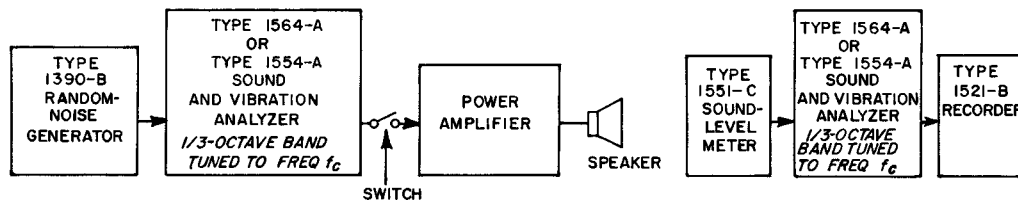

Figure 5.6. Setup for reverberation measurements.
Figure 5.6 shows the setup for reverberation measurements using a random-noise generator whose spectrum is flat with frequency. A third-octave-band filter following the generator is tuned to the desired frequency of measurement, generally 125, 250, 500, 1000, 2000, or 4000 cps. A switch after the filter permits instant silencing of the source. A power amplifier raises the level at least 40 db above the ambient noise level of the room or chamber. The type of loudspeaker is not critical, but its frequency response should be reasonably smooth, and it should not cause excessive distortion at the levels used. The preferred placement of the speaker is usually in a corner, where the maximum number of vibration modes are excited.
- d. Turn off the noise source, using the switch shown in Figure 5.6.